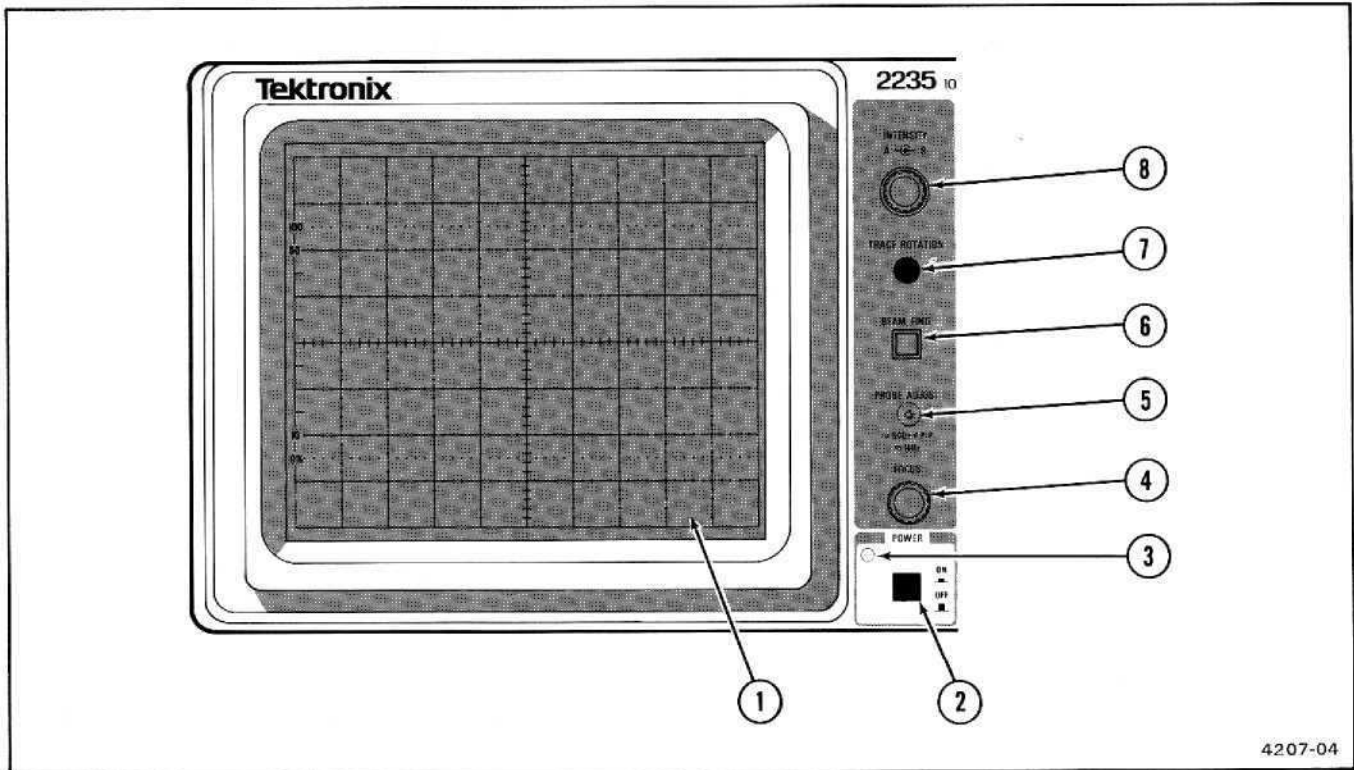

Figure 2-3. Power, display, and probe adjust controls, connector, and indicator.
Refer to Figure 2-3 for location of items 1 through 8.
- ① Internal Graticule—Eliminates parallax viewing error between the trace and graticule lines. Rise-time amplitude and measurement points are indicated at the left edge of the graticule.
- ② POWER Switch—Turns instrument power on and off. Press in for ON; press again for OFF.
- ③ Power Indicator—An LED that illuminates when power is available to the instrument and the POWER switch is set to ON (button in).
- ④ FOCUS Control—Adjusts for optimum display definition.
- ⑤ PROBE ADJUST Connector—Provides an approximately 0.5 V, negative-going, square-wave voltage (at approximately 1 kHz) that permits an operator to compensate voltage probes and the check operation of the oscilloscope vertical system. It is not intended to verify the accuracy of the vertical gain or time-base circuitry.
- ⑥ BEAM FIND Switch—When held in, compresses the display to within the graticule area and provides a visible viewing intensity to aid in locating off-screen displays.
- ⑦ TRACE ROTATION Control—Screwdriver adjustment used to align the crt trace with the horizontal graticule lines.